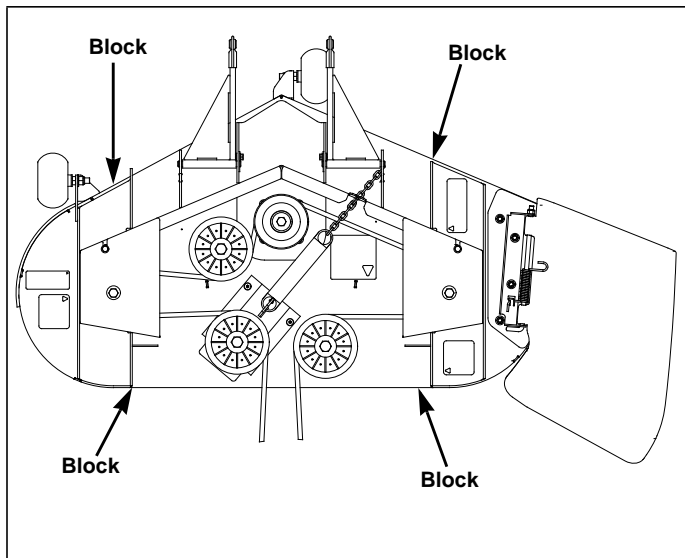

Figure 6-1
3. Place 3" high deck support blocks (two stacked 2" x 4" blocks can be used to create a 3" high support) at the four corners of the deck as shown. **NOTE:** Back of deck will automatically be set 1/4" higher. Figure 6-1